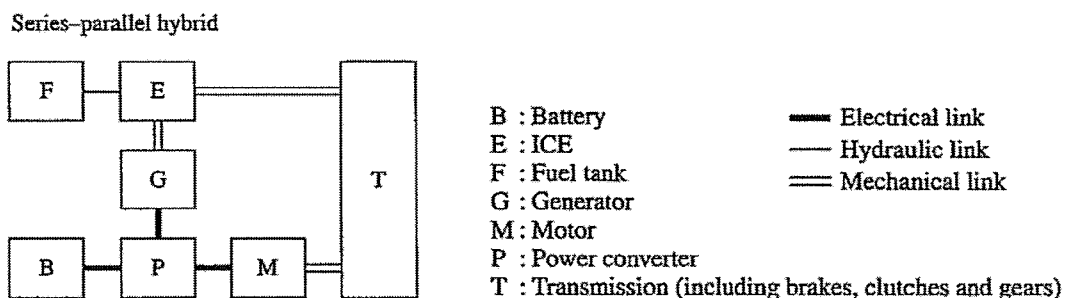

Figure Q2
- (c) Figure Q2 shows the block diagram of a series-parallel hybrid car. By referring to this diagram, explain the power flow of this kind of hybrid car during (i) startup with light load, (ii) hard acceleration, (iii) normal driving, (iv) deceleration/braking, (v) battery charging during driving, and (vi) battery charging during standstill. Your answer can either be “electric heavy series parallel hybrid configuration” or “ICE heavy series parallel hybrid configuration”. (14 marks)